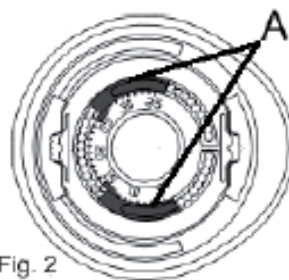

Fig. 2
**ADJUSTMENT OF THERMOSTAT OPERATING RANGE (fig. 2)**